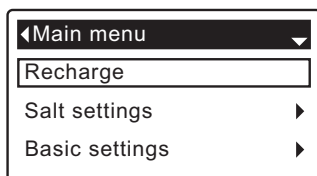
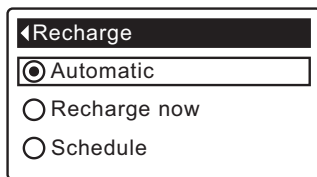
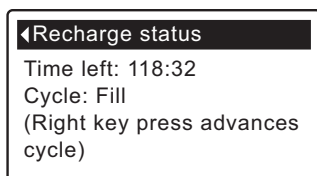

FIG. 34
FIG. 35
FIG. 36
2. Make sure **Recharge** is highlighted (See Figure 34).
3. Press the SELECT (O) button to display the Recharge menu (See Figure 35).
4. If the desired option already has a black dot next to it (See Figure 35), go to Step 5. Otherwise, press the DOWN (▼) or UP (▲) buttons to scroll to the desired option, then press SELECT (O) to choose it.
- **Recharge now** begins a recharge immediately after the SELECT (O) button is pushed again in Step 5.
5. Press the SELECT (O) button. If **Recharge now** is selected, the display immediately goes to the Recharge status screen (See Figure 36). If **Automatic** or **Schedule** are selected, the display goes back to the Main menu (Figure 34).